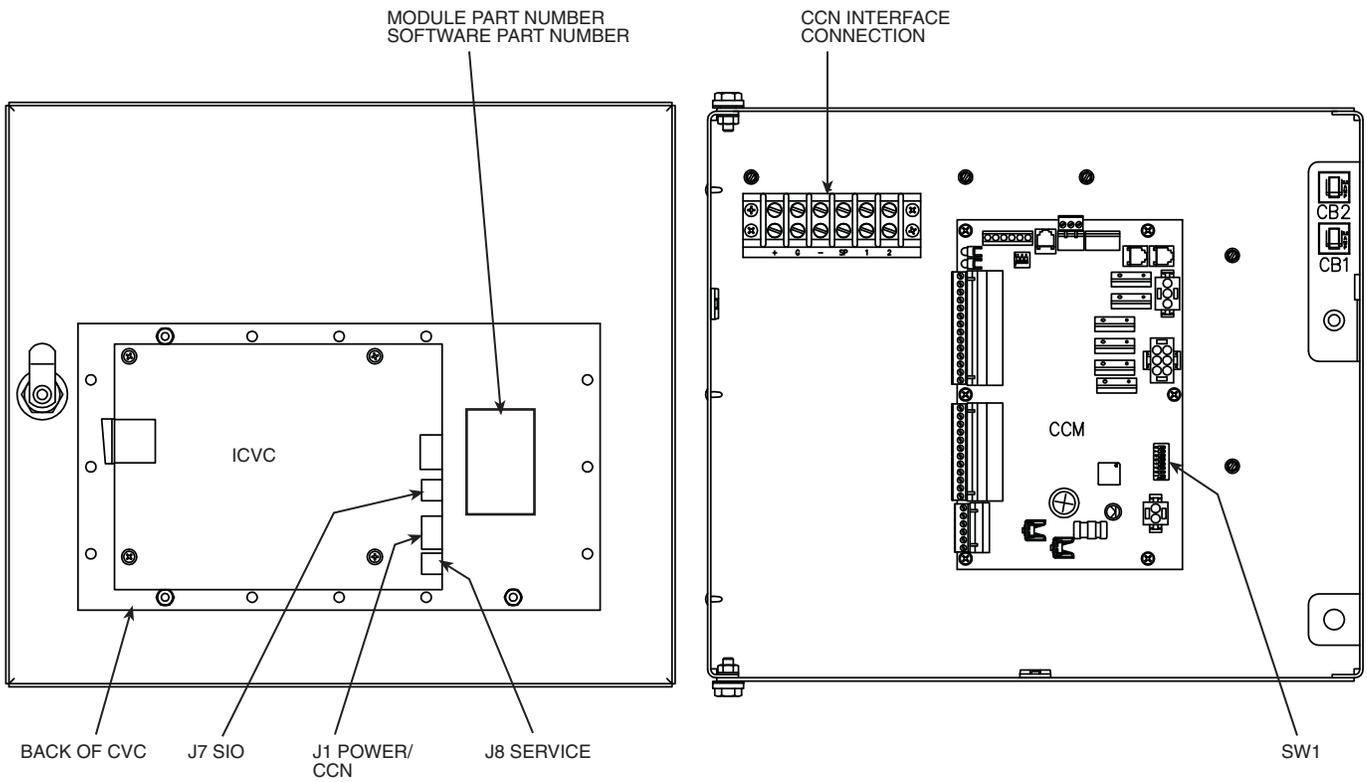

Fig. 54 — Rear of ICVC (International Chiller Visual Controller)
2. If a green LED is on continuously, check the communication wiring. If a green LED is off, check the red LED operation. If the red LED is normal, check the module address switches (SW1) (Fig. 54 and 55). Confirm all switches are in OFF position.